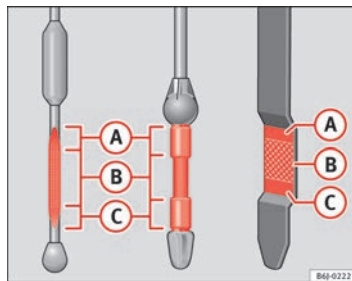

Fig. 118 Engine oil dipstick
- Then pull it out once more and check the oil level ⇒ **fig. 118**. Top up with engine oil if necessary.